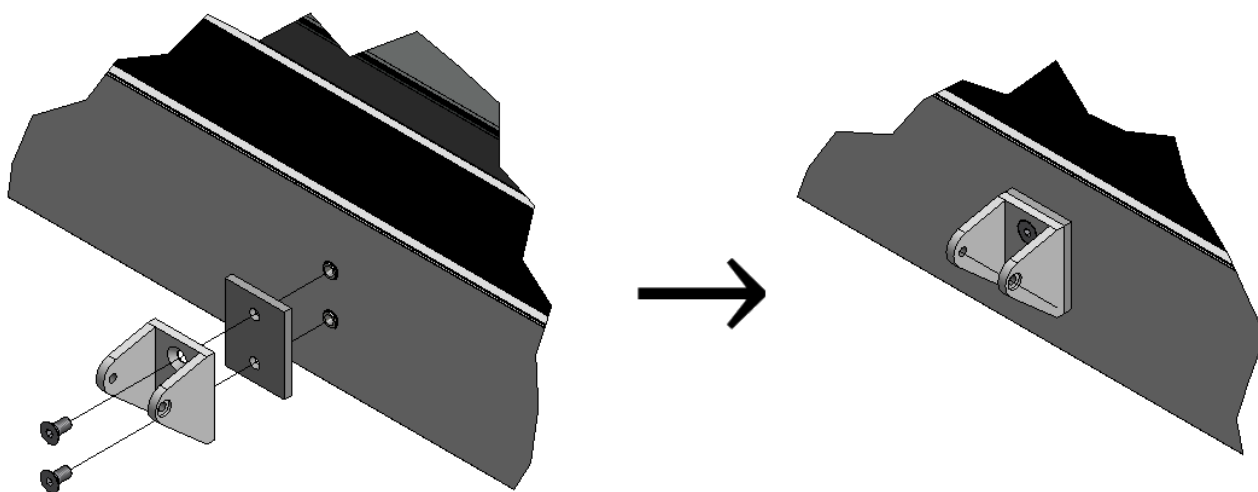

Fig. 14b – Base bracket attached
- Attach the base bracket and spacer (supplied) to the base frame of the product using the supplied screws (these are the same as the ones removed in the previous step) – ensure that the parts are correctly orientated (fig. 14b)